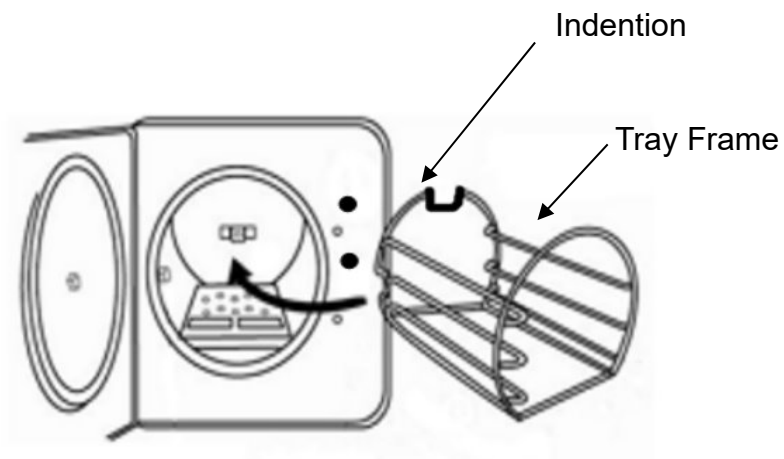

Figure 6
E. Install the tray frame as Figure 6. (optional accessory)
⚠ Caution: The frame should be installed as Figure 6 below. The indentation of the frame will pass the bushing in the chamber.